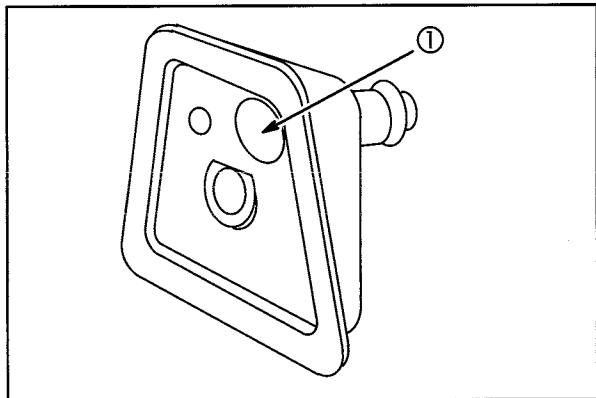

**Fig. 5**
Remove breather assembly (1). Discard gasket (2), **Fig. 5**.